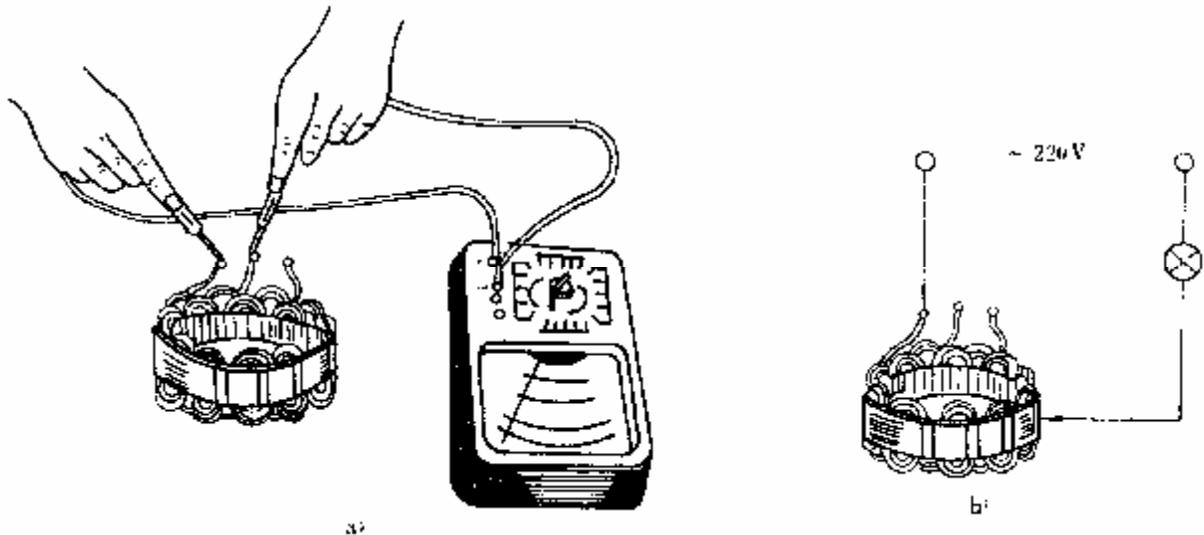

Figure 11-6 Check Stator Winding
(1) Check and repair stator winding. Open circuit can be checked with a multimeter (R x 1), use multimeter probes to touch three outlet stubs respectively as indicated in figure 11-6. It is normal if pointer stays below 1 $\Omega$ . But there must be an open circuit if the pointer remains still.